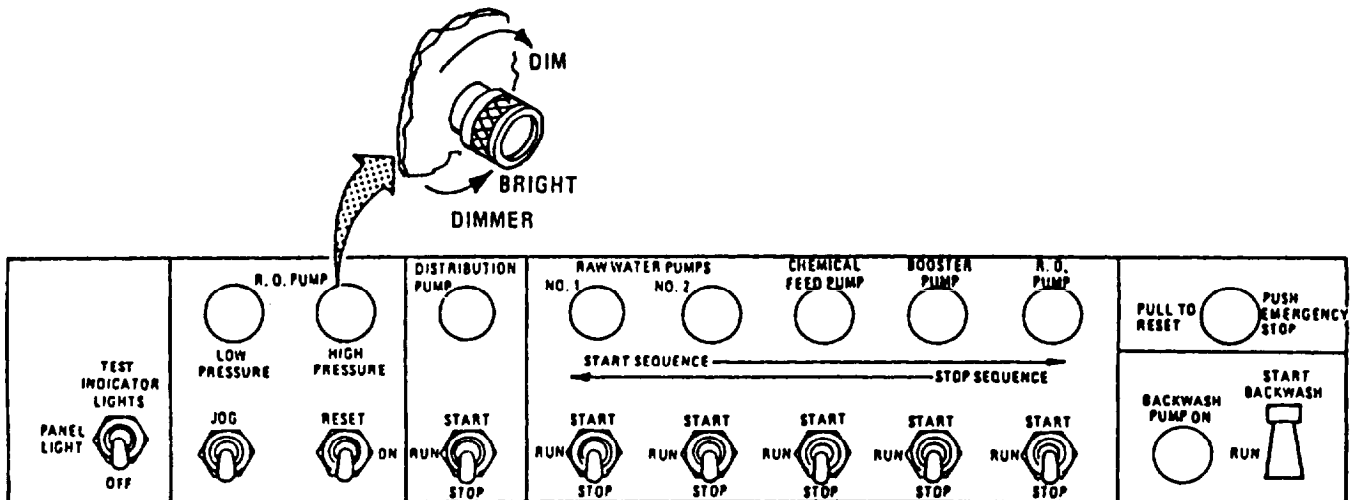
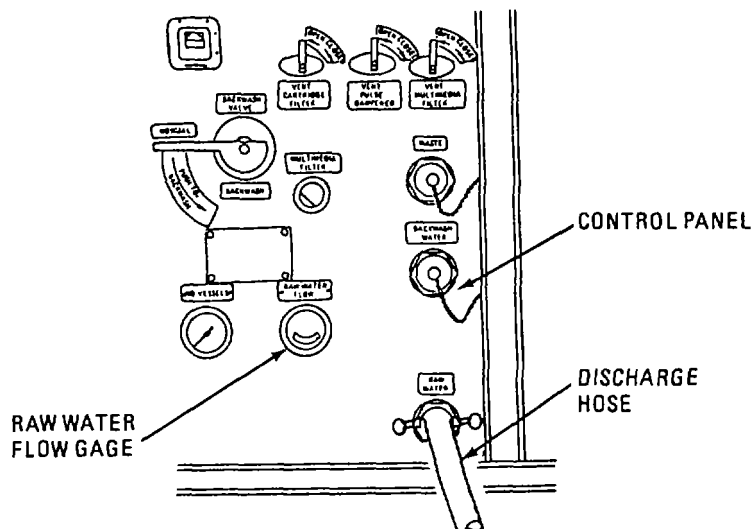

Figure 2-53. Control Box Emergency Stop Button, Switches and Lamps.
Figure 2-54. Control Panel and Raw Water Pump No. 2 Discharge Hose.
b. Start Raw Water Pump No. 1. Refer to figure 2-53.
- (1) Locate the lamp (3) and switch (7) for RAW WATER PUMP No. 1 on control box (9).
- (2) Set RAW WATER PUMP No. 1 switch (7) upward to START.
- (3) Hold switch (7) up until RAW WATER PUMP NO. 1 lamp (3) comes on.
- (4) Release RAW WATER PUMP No. 1 switch (7). Switch will return to RUN.
- (1) Set RAW WATER PUMP No. 2 switch (6, figure 2-53) upward to START.
- (2) Hold RAW WATER PUMP No. 2 switch (6) until lamp No. 2 (4) comes on.
- (3) Release RAW WATER PUMP No. 2 switch (6). Switch will return to RUN position.
- (4) Check raw water discharge hose connected to RAW WATER coupling on control panel (figure 2-54). Hose should expand and straighten out.
- (5) Check RAW WATER FLOW gage on control panel. Gage should indicate 27 to 40 gpm. If raw water flow is not between 27 and 40 gpm, proceed as follows to establish prime:
- (a) Set RAW WATER PUMP NO.1 switch (7, figure 2-53) and RAW WATER PUMP NO.2 switch (6) to STOP.
- (d) Set RAW WATER PUMP NO. 2 switch (6, figure 2-53) to START, then release.